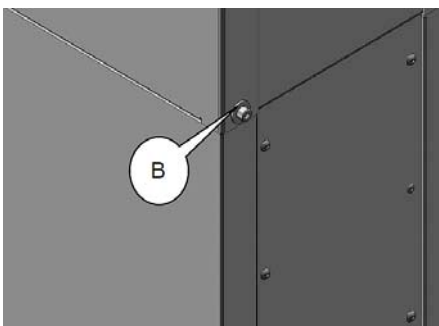

Fig. 12: Fixing the surface and thickness planer
Step 9: The surface and thickness planer with the help of the screws and washers (B, Fig.12) on the machine base frame.